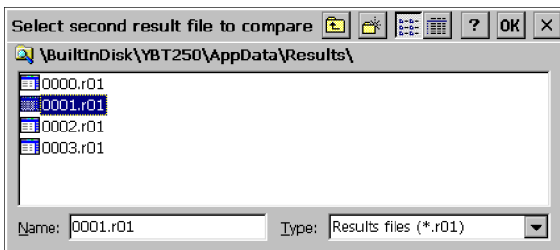

Figure 3-8: Selecting the second result file
4. After you select the first result, use the **Select second result file to compare** dialog box (shown in Figure 3-8) to select the second trace file.